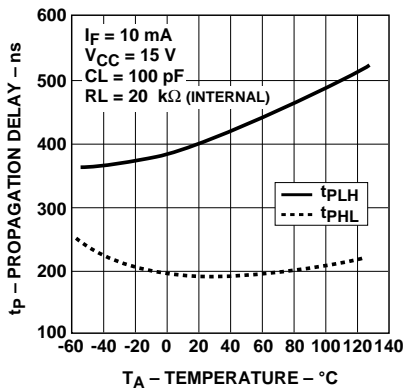

Figure 8. Propagation Delay with Internal 20 kΩ RL vs. Temperature.
- Due to the tolerance of the internal resistor, and since propagation delay is dependent on the load resistor value, performance can be improved by using an external 20 k $\Omega$  1% load resistor. For more information on how propagation delay varies with load resistance, see Figure 8.